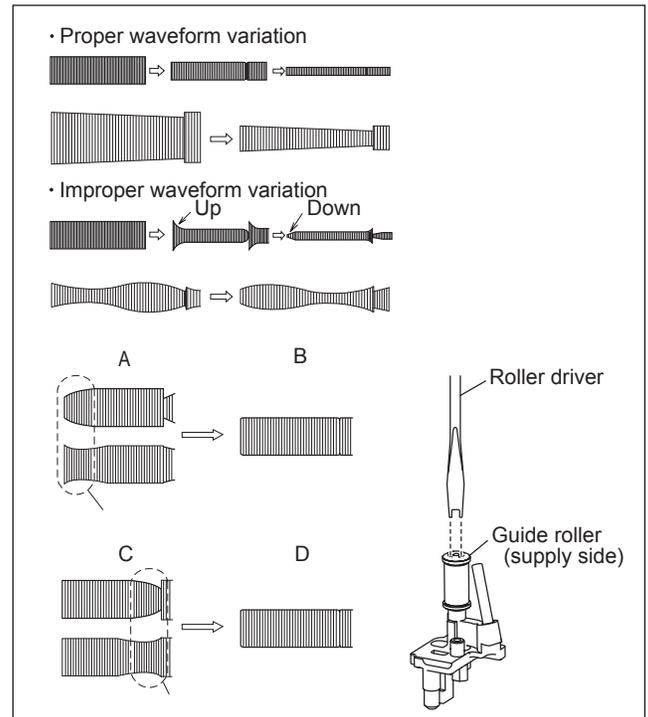

Fig.4-2c
- Apply the external trigger signal to D.FF (E), to observe the V.PB FM waveform at the measuring point (D).
- Make sure that there is no significant level drop of the V.PB FM waveform caused by the tracking operation, with its generally parallel and linear variation ensured. Perform the following adjustments when required. (See Fig. 4-2c.)
- Reduce the V.PB FM waveform by the tracking operation. If a drop in level is found on the left side, turn the guide roller of the pole base assembly (supply side) with the roller driver to make the V.PB FM waveform linear. If a drop in level is on the right side, likewise turn the guide roller of the pole base assembly (take-up side) with the roller driver to make it linear. (See Fig. 4-2c.)